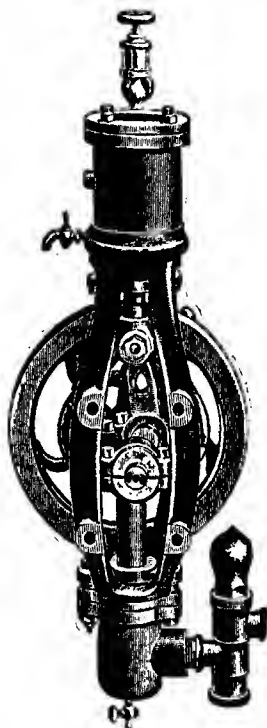

FIG. 16.—CLARK PUMP.
**Clark Pump.**—This is an independent steam pump which gets its power from a small vertical steam engine. (Fig. 16.) The pumping parts are almost identical with the two types already mentioned. The piston of the engine is connected by means of a large yoke to the pump plunger. The crank shaft is located within the loop, the connecting rod being very short. A small flywheel on the crank shaft carries the piston past the centers so that an eccentric can drive the slide valve in the cylinder. This flywheel usually has a small crank attached so that the pump can be run by hand. In case the water is too low in the boiler to start a fire safely, the pump can be operated by means of this crank without the necessity of removing a priming or filler plug of a boiler.